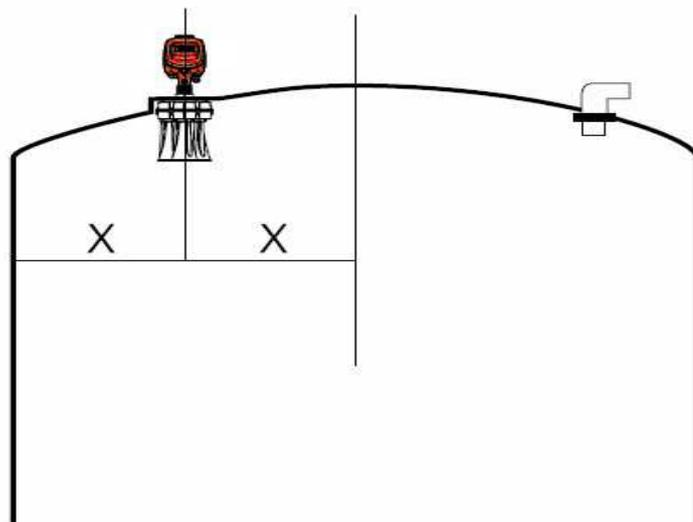

Figure 21 Optimal Position
- ① The optimal position for the scanner is halfway between the center and the side of the vessel, as shown in Figure 21.